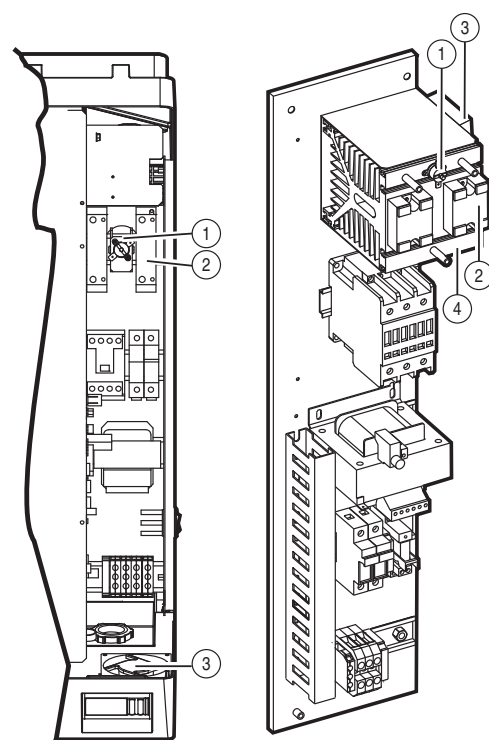

Fig. 17.f
- Whether the thermoprotective placed in the din rail near to the SSR relays has been working, or placed in front of the baffle pressing the reset button (see Fig. 17.f);